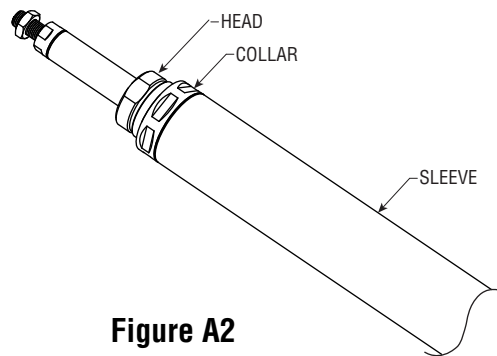

Figure A2
- b. While firmly holding the Head by the flats, remove the Collar (see Figure A2).